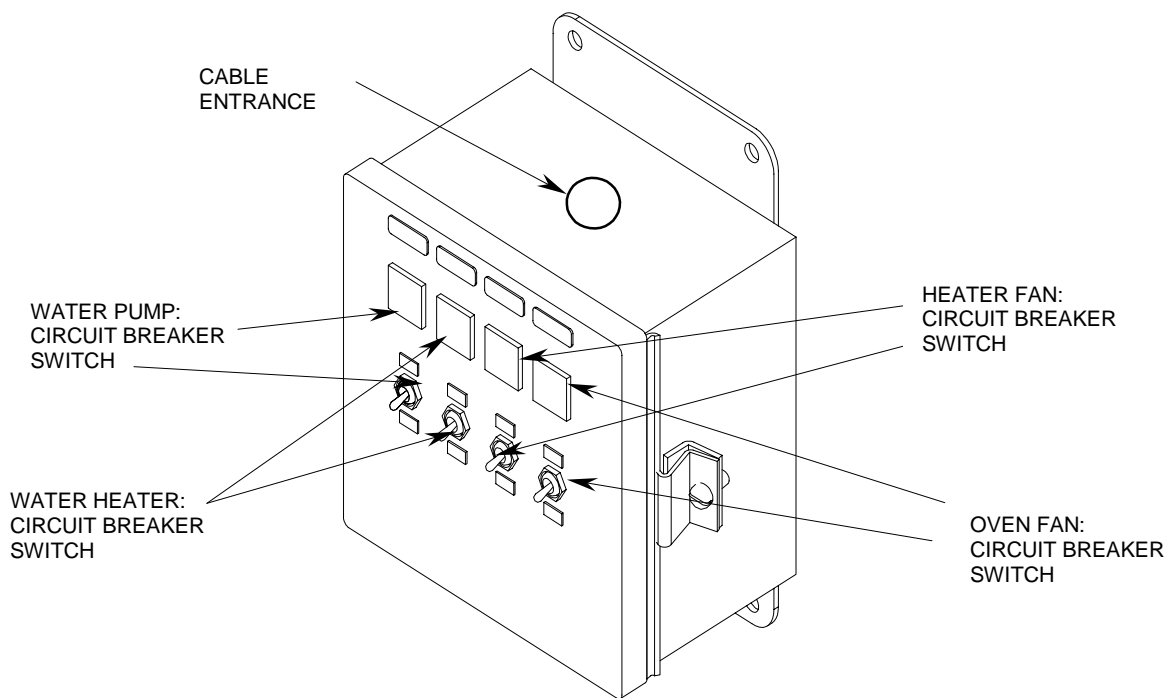

Figure 2. Appliance Control Box.
**Switch Replacement:** Unplug the control box power cord from the ceiling raceway. Referring to Figure 2, remove the mounting nut on the front of the panel. Remove terminal lugs from the switch and remove the switch from the back of the panel. Replace the switch, reinstall hardware and connect terminal lugs.
**Circuit Breaker Replacement:** Unplug the control box power cord from the ceiling raceway. Referring to Figure 2, depress the locking springs on the sides of the circuit breaker assembly and slide the circuit breaker through the front of the panel. Replace the circuit breaker and reconnect the terminal lugs.
**Connector Replacement:** Unplug the control box power cord from the ceiling raceway. Referring to Figure 2, label and disconnect the wires at the junction strip. Remove the mounting nut and the connector. Install the replacement connector using existing hardware.